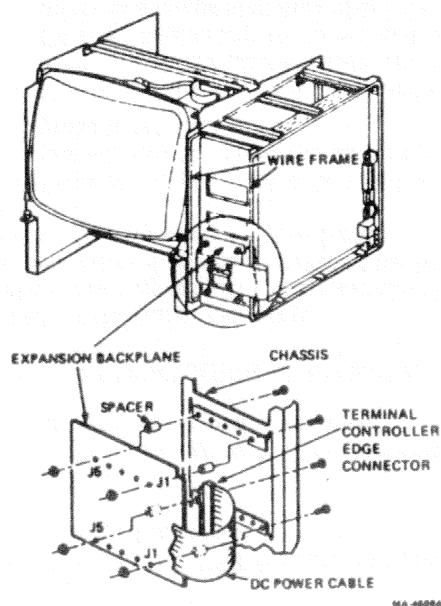

Figure 5-19 Expansion Backplane
If VT105 or VT125: Disconnect the 22-pin edge connector from the expansion backplane (Figure 5-19).
8. Disconnect the 22-pin edge connector from the expansion backplane (Figure 5-19).